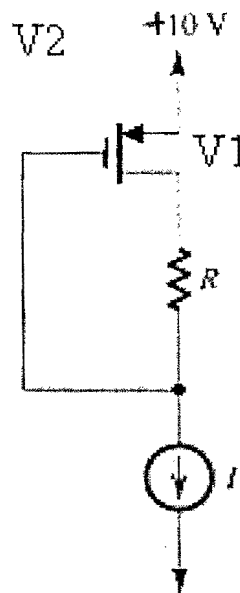
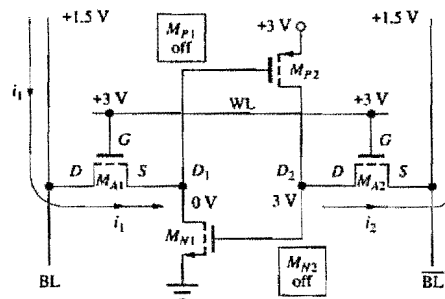
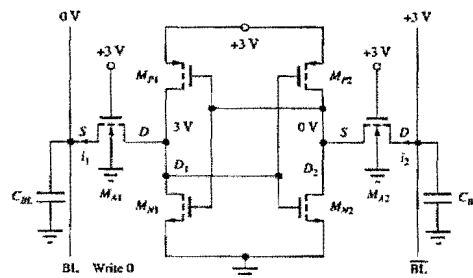

Figure 1
Figure 2
Figure 3
The PMOS transistor in the circuit as shown in Figure 1, has the following parameters, $k_p' = 8 \mu\text{A}/\text{V}^2$, $W/L = 25$ and $|V_{tp}| = 1\text{V}$. Given that the value of $I = 100 \mu\text{A}$.
- (b) Figure 2 shows the condition immediately following activation of the wordline during read operation. Find bitline currents i_1 and i_2 in figure 1 immediately following activation of the wordline. Assume $W/L = 2/1$ for all devices and use $V_{DD} = 5\text{ V}$, $WL = 5\text{ V}$, the bitline voltages are 2.5 V , $k_n' = 25\text{ }\mu\text{A/V}^2$, $V_{TO} = 1\text{ V}$, $\gamma = 0.6\text{ V}^{1/2}$, and $2\Phi_F = 0.6\text{ V}$. [8 mark]
- (c) Figure 3 shows the condition immediately following activation of the wordline during write operation. Find bitline currents i_1 and i_2 in figure 1 immediately following activation of the wordline. Assume $W/L = 2/1$ for all devices and use $V_{DD} = 5\text{ V}$, $WL = 5\text{ V}$, the bitline voltages are 2.5 V , $k_n' = 25\text{ }\mu\text{A/V}^2$, $V_{TO} = 1\text{ V}$, $\gamma = 0.6\text{ V}^{1/2}$, and $2\Phi_F = 0.6\text{ V}$. [8 mark]